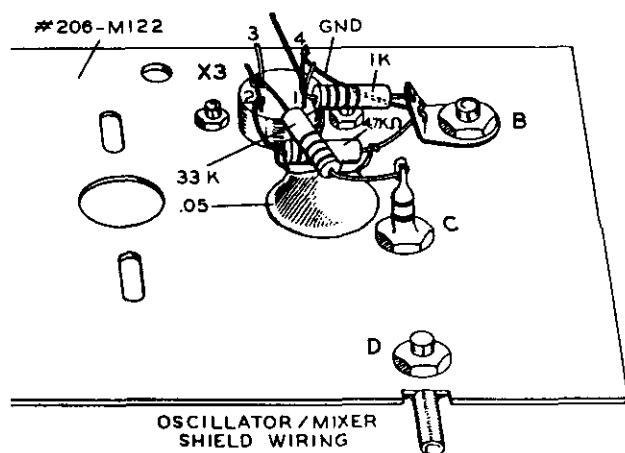

Figure 4A
Refer to Figure 4, Figure 4A and Detail 11 for the following steps.
- (5) Connect one end of a 3/4" length of bare wire to pin 4 of transistor socket X3 (S-1). Connect the other end to the bottom hole in ground lug B (NS). See Figure 4A.
- (6) Cut both leads of a .05  $\mu$ fd disc ceramic capacitor C36 to 1/2" in length. Locate a 4.7 K $\Omega$  resistor (R18, yellow-violet-red). Wrap both capacitor leads around the leads of the resistor as shown in Detail 12. Solder both leads. AVOID OVERHEATING.